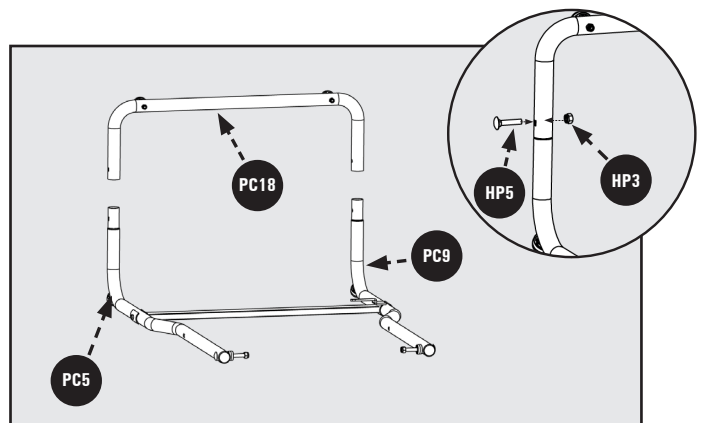

Figure 4
3. Attach Support Rod Connection Base (PC18) into the Support Stand Assembly (assembled in Step 2). Secure with M8 x 35mm. Carriage Screw (HP5) and M8 Locknut (HP3) on each side. Use a 13mm Combination Wrench to secure. See Figure 4.